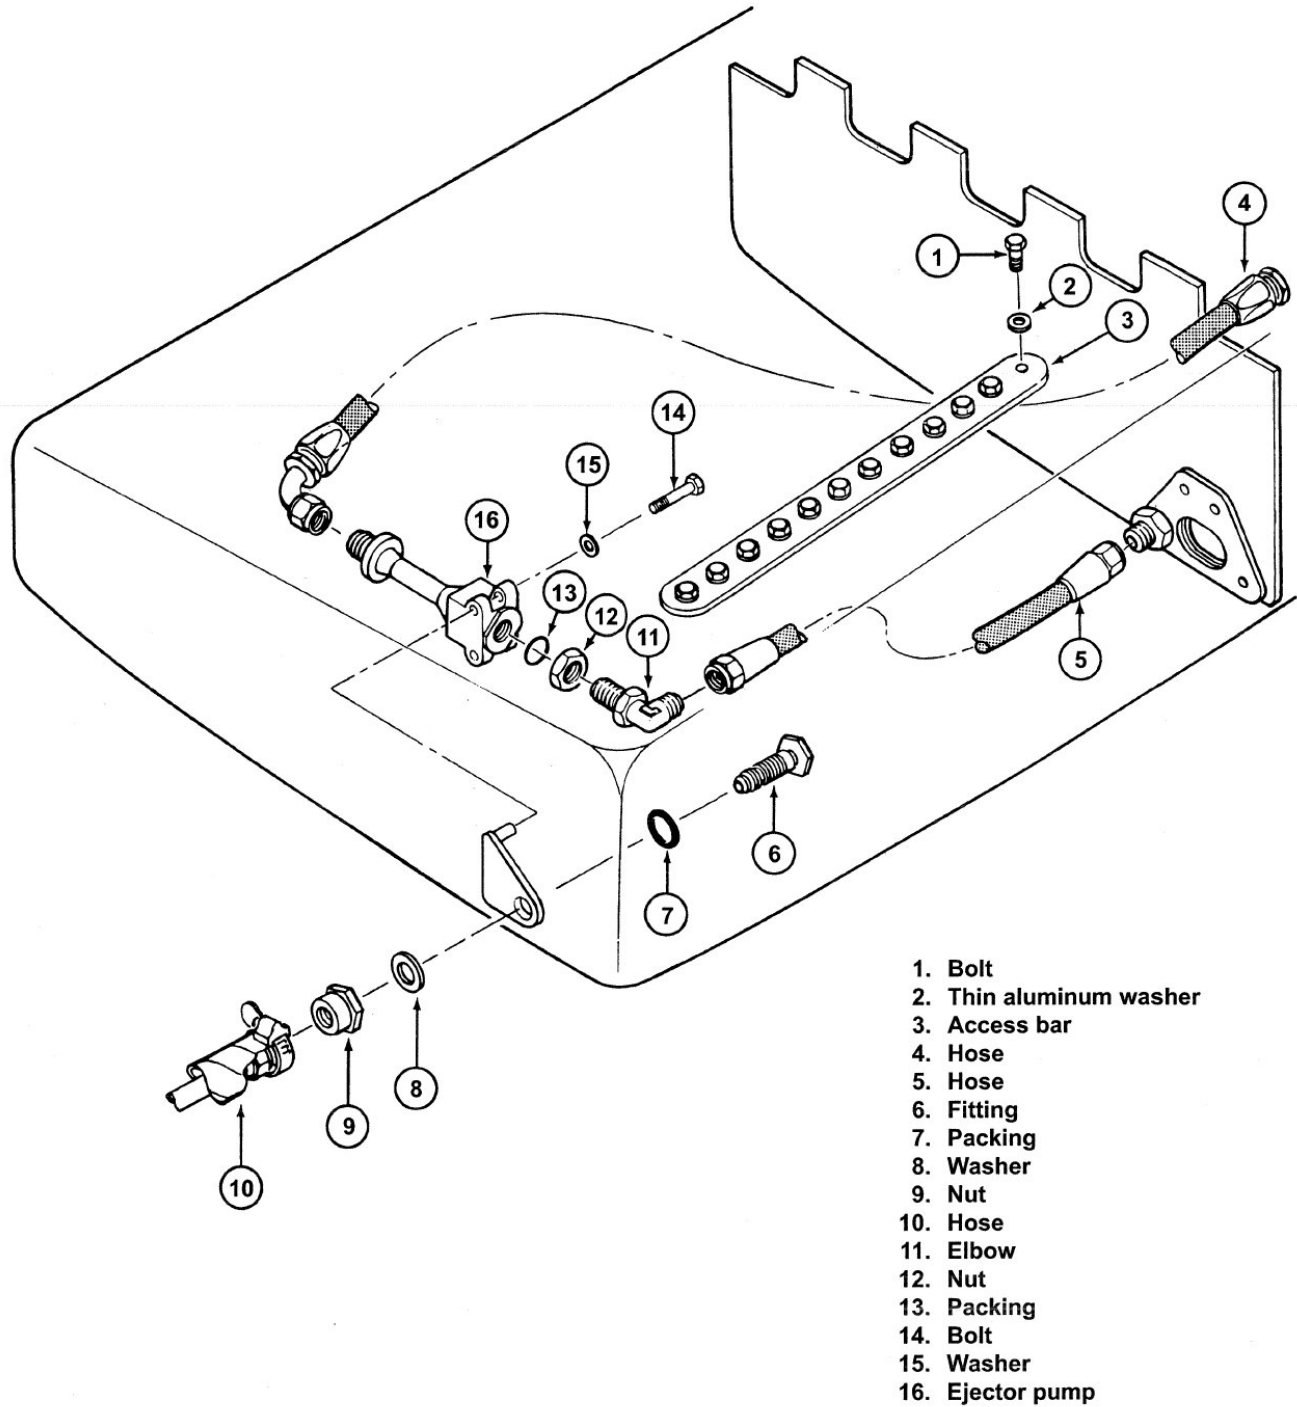

Figure 28-9. Ejector sump
An ejector pump (Figure 28-9) is mounted in each forward fuel cell. The ejector pump is operated by fuel delivered through a hose from the electric boost pump. The ejector pump draws fuel from the forward compartment and interconnect line and continuously returns fuel to the rear compartment of forward cell, so fuel is usable in any flight attitude.
28.16.1.4 Remove bolts (1, Figure 28-9) and remove access bar (3).
28.16.3.2 If removed, install elbow (11, Figure 28-9) with nut (12) and new packing (13) in ejector pump (16)